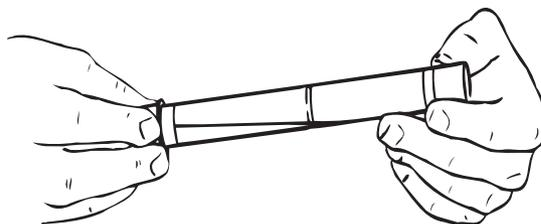

Figure 8 Rinsing the Collector Tube Walls
12. For each collector tube, hold the tube horizontally and rinse its walls with the distillate in order to homogenize it. Slowly roll the distillate around in the tube to gather all droplets clinging to the tube walls into the bulk of the distillate. Holding the tube up to the light aids in seeing the condensate inside the tube. Then, slowly return the collector tube to an upright position so that the **D** end is up (Figure 8). Stubborn drops will often fall into the **M** end when the tube is flicked with a finger.